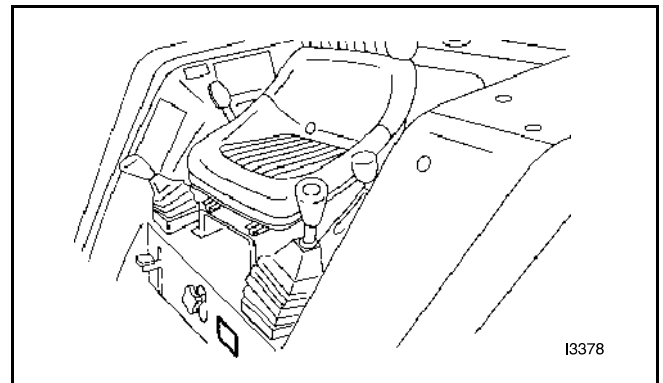

FIG. 1
FIGS. 1–3: Tractor identification plate (1) located below operator's seat on left-hand side of vertical floor panel. Contains model number, machine series number and weight in addition to Tractor serial number.